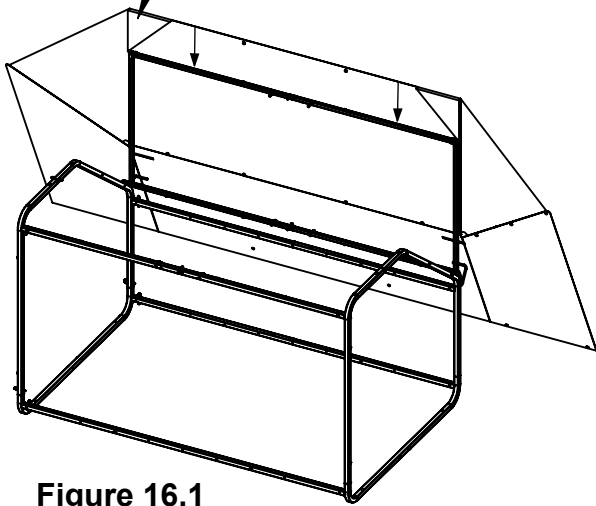

Figure 16.1
STEP 8: When installing the cover it is easiest to start with front cover "J". Start by sliding the top corner pockets over the top of the door frame, then hook the buckles on the cover to the top side of the door frame, as shown in figure 16.1& 17.3. Once the top of the cover is buckled into place, secure the rest of the door cover in place with the velcro straps and buckles. Once the door is secured insert the wire door stops on the front of the frame through the slots on the cover, figure 16.3.